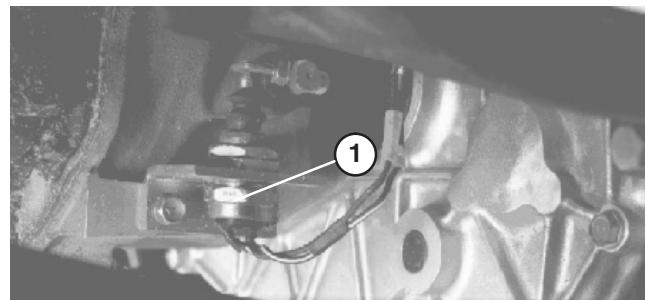

Figure 63
7. Recheck clutch safety switch adjustment (Fig. 63). Engine must not crank unless clutch pedal is $1.25" \pm .12"$ from floor. If an adjustment is required, loosen switch jam nuts and adjust up or down.